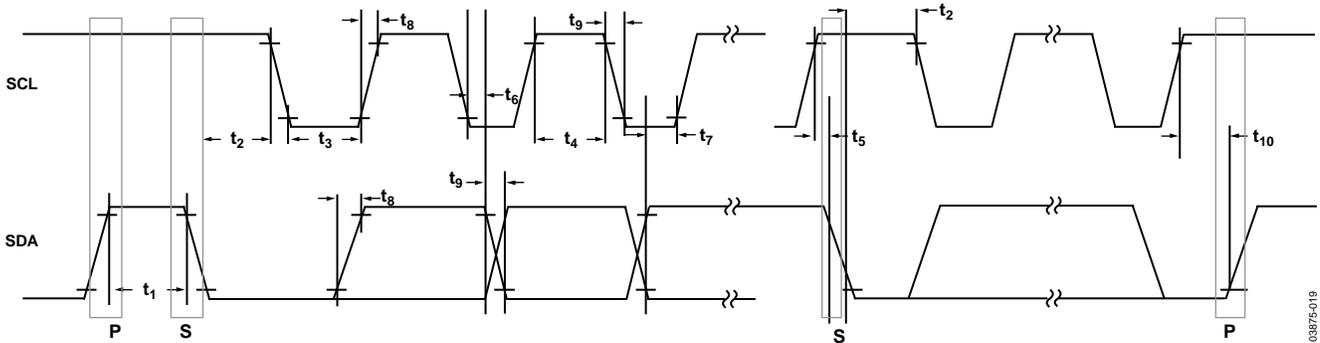
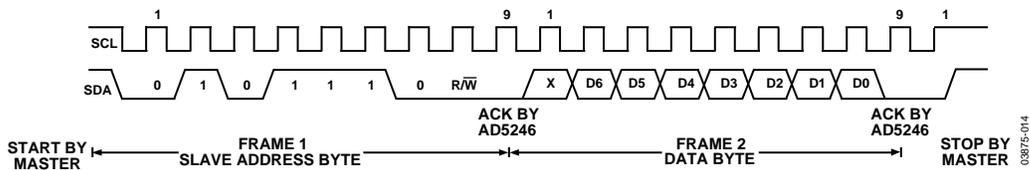
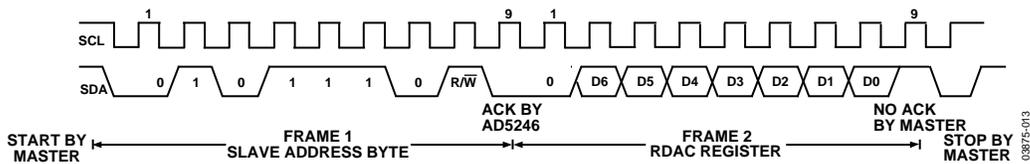

Figure 26. I2C Interface, Detailed Timing Diagram
Figure 27. Writing to the RDAC Register
Figure 28. Reading from the RDAC Register
3 See timing diagrams (Figure 26, Figure 27, and Figure 28) for locations of measured values.
1. The master initiates data transfer by establishing a START condition, which is when a high-to-low transition on the SDA line occurs while SCL is high (see Figure 27). The following byte is the slave address byte, which consists of the 7-bit slave address followed by an  $\overline{\text{R/W}}$  bit (this bit determines whether data will be read from or written to the slave device).
3. In read mode, after acknowledgement of the slave address byte, data is received over the serial bus in sequences of nine clock pulses (a slight difference from the write mode where eight data bits are followed by an acknowledge bit). Similarly, the transitions on the SDA line must occur during the low period of SCL and remain stable during the high period of SCL (see Figure 28).
4. When all data bits have been read or written, a STOP condition is established by the master. A STOP condition is defined as a low-to-high transition on the SDA line while SCL is high. In write mode, the master pulls the SDA line high during the tenth clock pulse to establish a STOP condition (see Figure 27). In read mode, the master issues a No Acknowledge for the ninth clock pulse (that is, the SDA line remains high). The master then brings the SDA line low before the tenth clock pulse, which goes high to establish a STOP condition (see Figure 28).